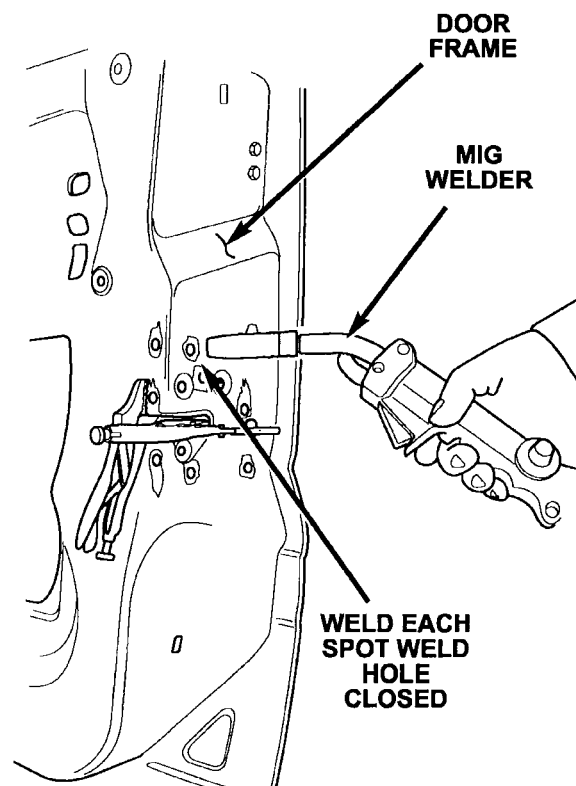

Figure 6
19. Using a MIG welder, weld the holes closed (Figure 6). Refer to the “Welding Specifications” chart at the end of this procedure for welder setup specifications..